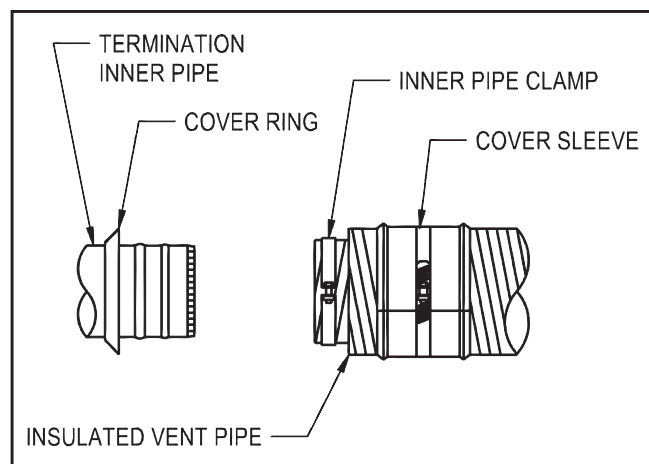

Figure 3
1. Pull outer vent pipe back 1-2" from inner vent pipe end and remove insulation. (See Figure 3)
2. Slide cover sleeve onto end of vent pipe a few inches back from end of outer vent pipe. (See Figure 3)
3. Slide cover ring over stop bead on termination inner pipe. (See Figure 3)
4. Assemble inner pipe clamp halves using the supplied $\frac{1}{4}$ " bolts and square nuts, and position inner pipe clamp $\frac{1}{4}$ " from end of inner pipe. (See Figure 3)